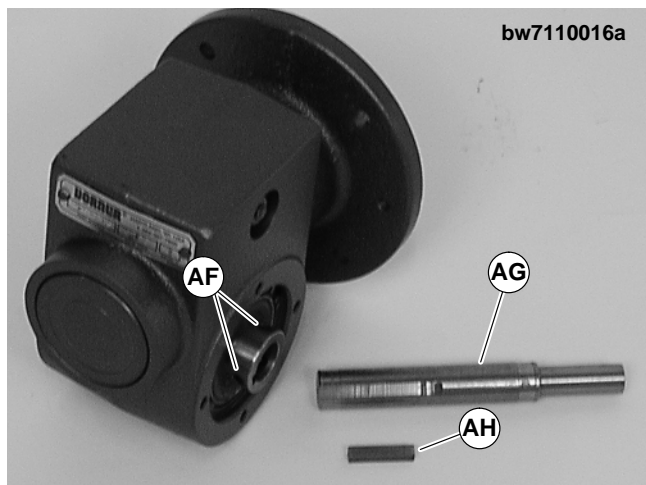

Figure 23
- Loosen six (6) set screws (AF of Figure 23). Remove drive shaft (AG) and key (AH).
- Replace the original shaft components into new gear reducer (see Figure 23). Tighten set screws (AF) to 26 in-lb (3 N-m).